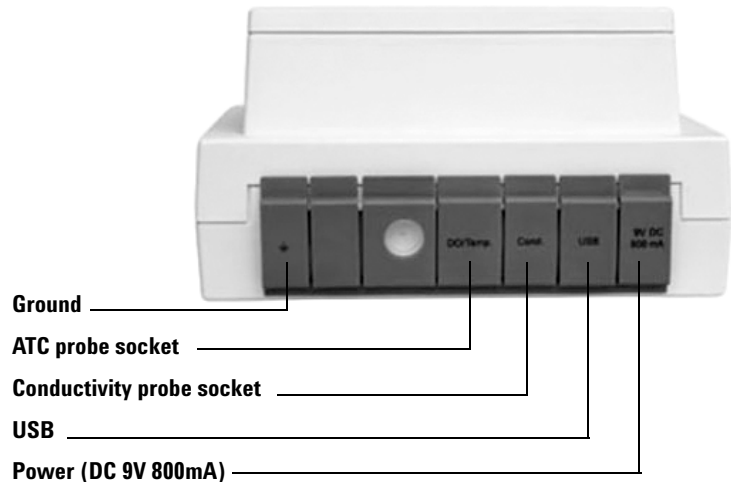

Figure 3 The back view of the 3200C Conductivity Meter
- 4 Locate the conductivity and ATC probe sockets on the back of the meter. Plug the C5111 conductivity probe (5190-3994) connector and ATC probe (5190-3998) connector into the sockets on the rear of the meter. See Figure 3.
- Connect the power adapter cord to the power socket on the back of the meter. See Figure 3 on page 11.